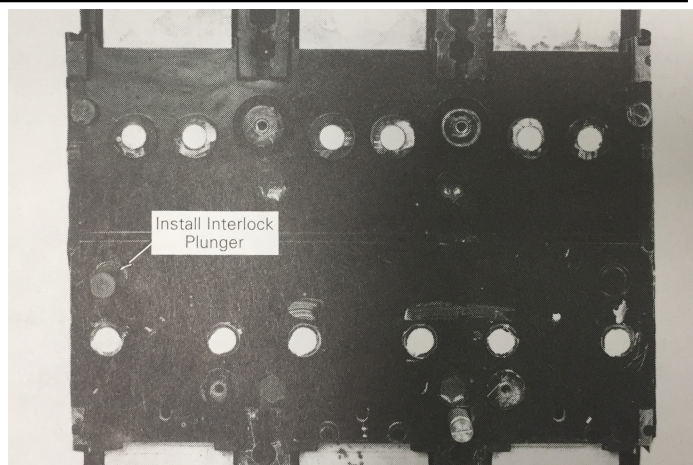

Figure 4 Interlock plunger installed in the breaker.
3. Install the interlock plunger in the hole made in step 2, as illustrated in Figure 4.